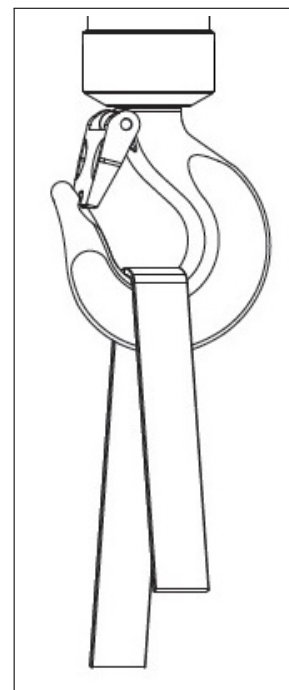

Figure 11: Safely attaching loads
- ▶ Connect the sling gear at the lowest point of the hook. Never load the hook nose (↔ Figure 11).